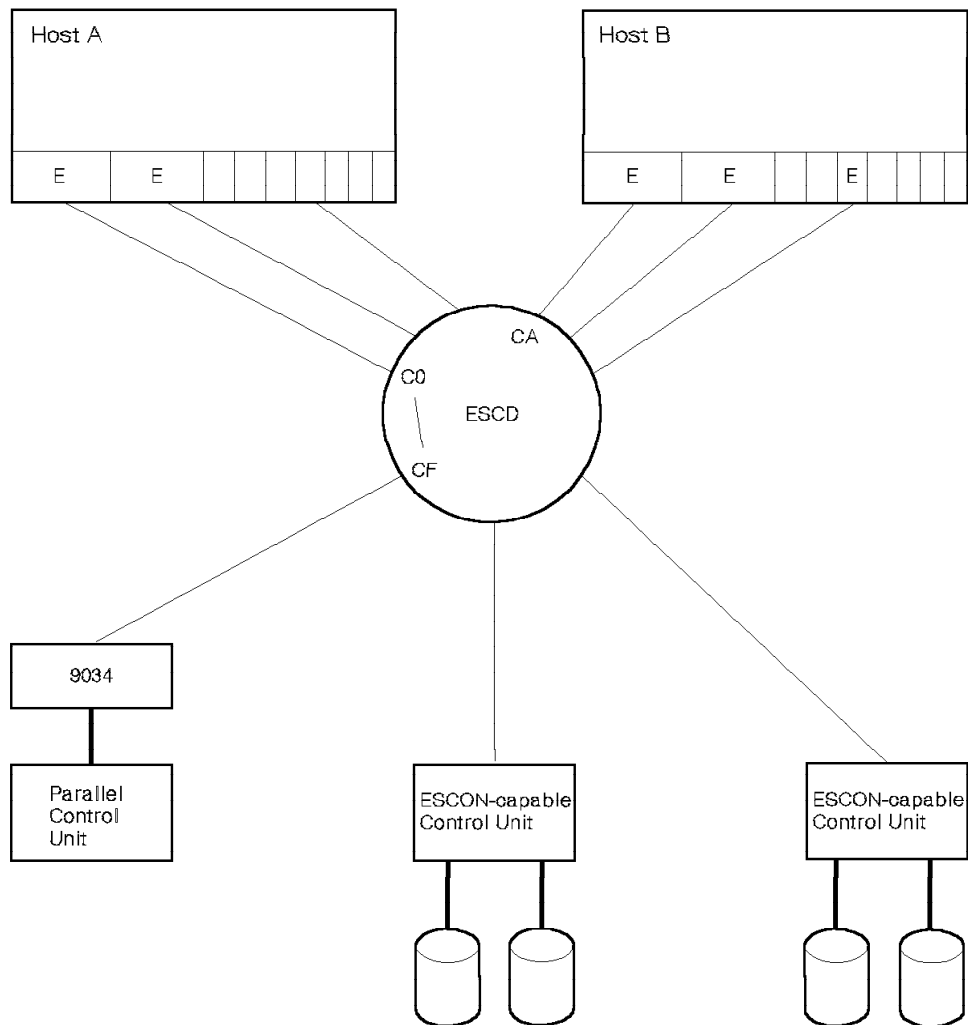

Figure 47. Two Hosts with ESCON Channels
**9034 Backup:** The use of 9034s when one host is a backup for another host requires planning and preparation. Figure 47 illustrates a situation with two hosts: each host has at least one ESCON channel defined for use with a 9034 but the channel on host B is not being used. The required dedicated connection is shown between C0 and CF. Each channel is defined in the current I/O configuration and has paths defined to the parallel devices. If you want to move applications that use the parallel devices from host A to host B, perform the following steps:
In Figure 47, the channel is attached to port CA.